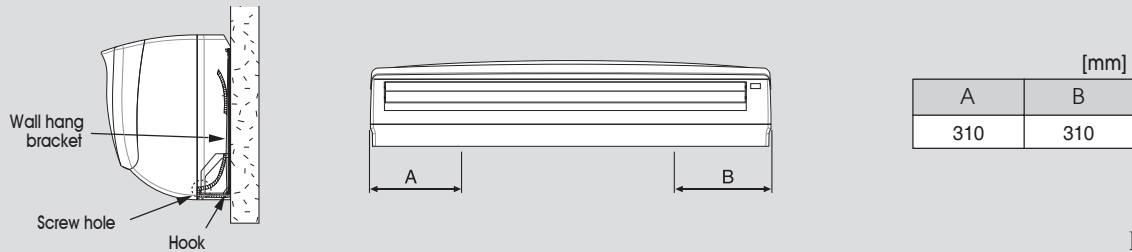

Figure 12
- Pass the pipes through the wall sleeve and then hook the indoor unit body onto the top of the wall hang bracket. ( Figure. 12 )
- After installation, if there is a significant gap between the unit and wall, it can be adjusted by securing 2 screws to the body and wall hang bracket. Refer to the screw hole location(A, B) in Figure 12.
- Removing the frame grille ; ① Detach terminal block cover by removing two screws and remove two screws from frame grille.
② Pull the triangle marks located at the bottom of the frame grille and lift frame grille to the top of the unit.